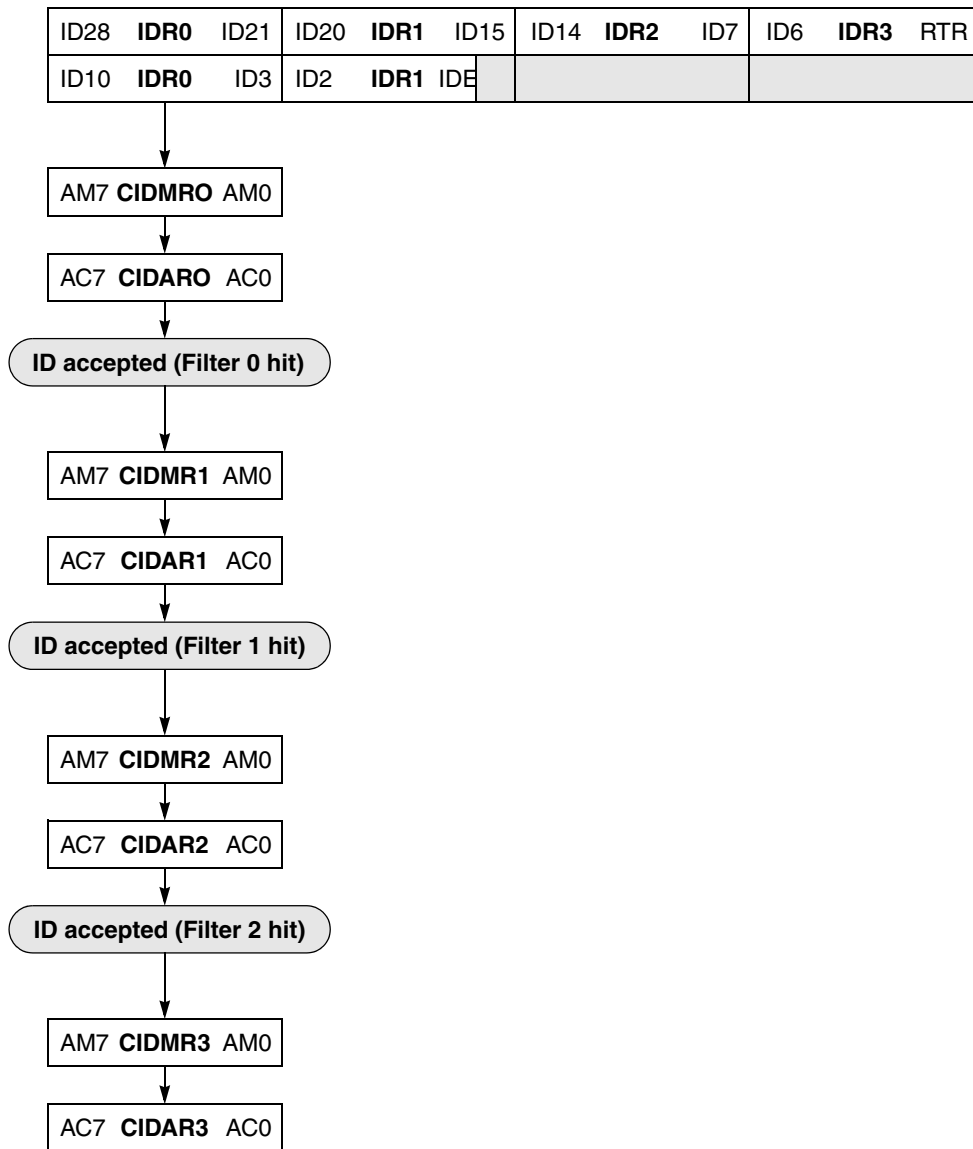

Figure 18-5. 8-bit Maskable Acceptance Filters
- Eight identifier acceptance filters, each to be applied to the first 8 bits of the identifier. This mode implements eight independent filters for the first 8 bit of a CAN 2.0A compliant standard identifier or of a CAN 2.0B compliant extended identifier. Figure 18-5 shows how the first 32-bit filter bank (CIDAR0–3, CIDMR0–3) produces filter 0 to 3 hits. Similarly, the second filter bank (CIDAR4–7, CIDMR4–7) produces filter 4 to 7 hits.